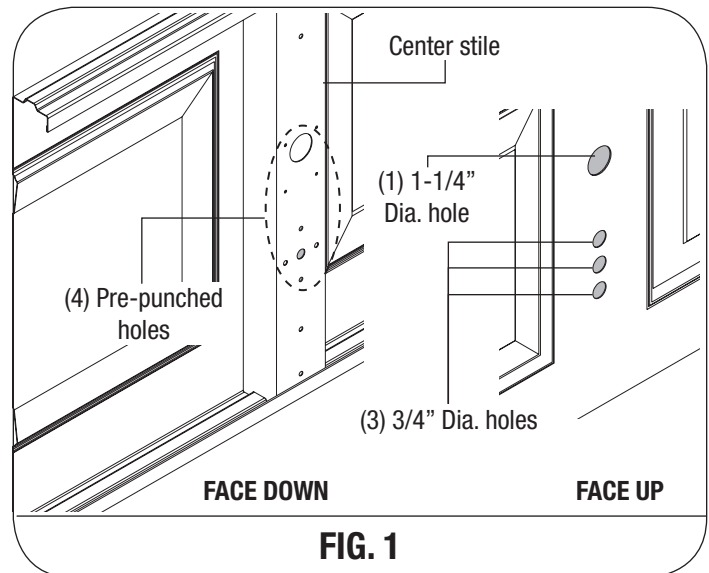

FIG. 1
8000/8100/8200 DOORS, (SEE FIG. 1): Place the lock section face down on (2) padded sawhorses for a single car door or (3) padded sawhorses for a double car door. Locate the (4) hole pattern in the center stile of the lock section. Use the (4) holes as a template to drill (4) 1/8" holes through the section. Flip the section over, face up. With the section face up, enlarge the (3) bottom holes to 3/4" diameter and the top hole to 1-1/4" diameter, pay close attention not to drill completely through section into center stile.